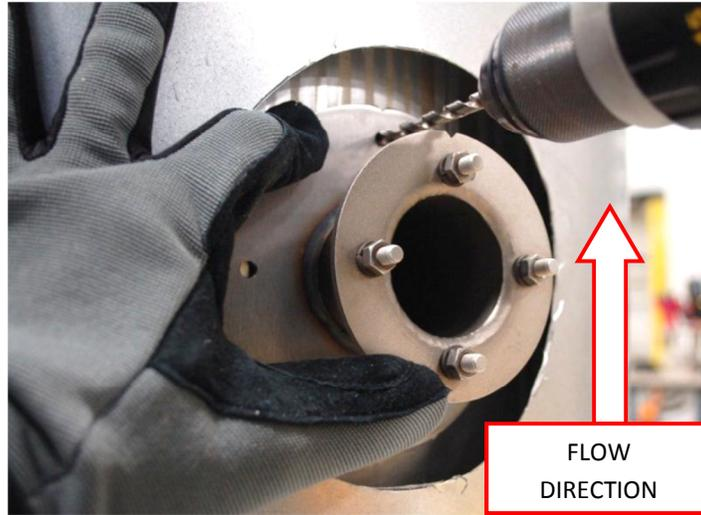

Figure 7: Collector Orientation & Marking the Top Hole
- Using the 2-1/8" hole-saw, cut a hole through the inner stack. Follow the existing 1/8" hole with the pilot bit on the hole-saw. (See Figure 7) **NOTE: The inner stack can be difficult to cut with a hole-saw. Use a sharp hole-saw, apply moderate pressure, and very slow speed. If necessary, take periodic breaks to let the hole-saw cool in order to avoid dulling the saw teeth.**
8. After the 2-1/8" hole is cut through the inner stack, insert the collector into the hole. The flanges' v-groove notches must be pointing in the direction of flow in order for the collector to scoop the exhaust. (See Figures 7 & 8)
9. Hold the collector in place and use the 7/32" drill bit to mark the center of the top hole onto the inner stack. (See Figure 7) **NOTE: Do not drill through the inner stack with this bit. This step is only meant to put a mark on the inner stack.**